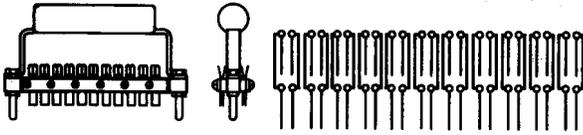

Fig. 3—216 or 216B Plug
- 2.04 216 and 216B:** The 216 and 216B plugs are illustrated in Fig. 3.